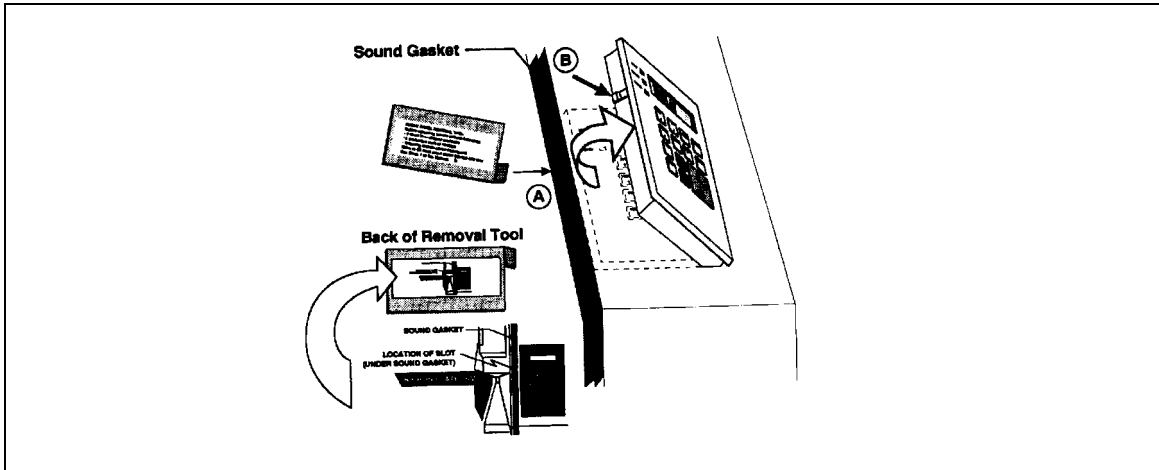

Figure 3-3. Control Panel Removal.
- (1) There are several shipping clamps, brackets, and retaining tabs that must be removed before operating the printer. Although these are identified below, be sure to thoroughly review and adhere to the specific steps for setting up the printer as defined in the Mannesman Talley documentation.
(2) First, insert the tip of the removal tool into the control panel slot as illustrated in figure 3-3.